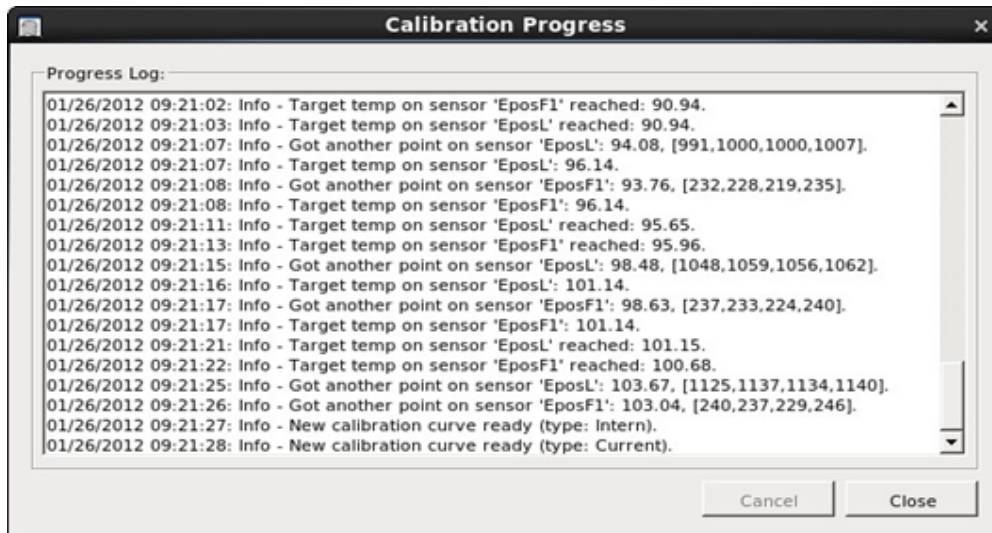

Figure 3 - Log window after completing post calibration
- 2.5 The internal calibration process has been successfully completed when event logging stops and the last line confirms successful calibration with the following message: New calibration curve ready. See Figure 3.